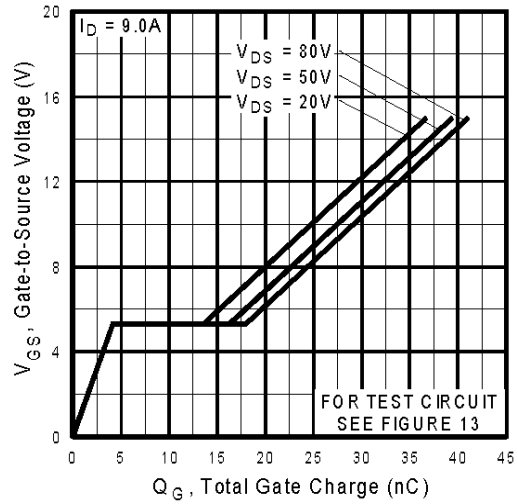

Fig 6. Typical Gate Charge Vs. Gate-to-Source Voltage
| Q _{gd} | Gate-to-Drain ("Miller") Charge | — | — | 21 | | V _{GS} = 10V, See Fig. 6 and 13 ④⑥ |